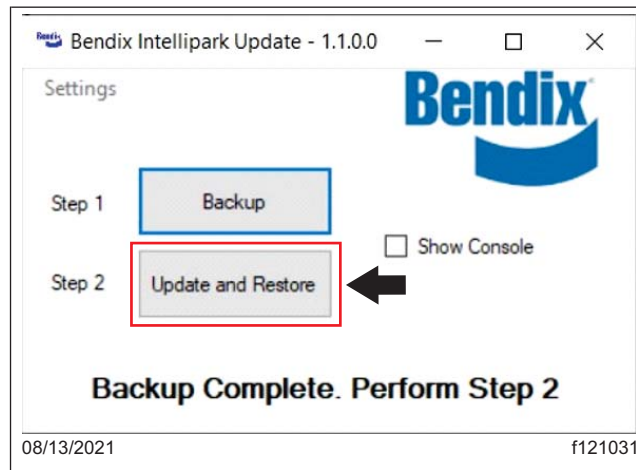

Fig. 13, Selecting Update and Restore
- If neither of the conditions from steps 8 and 9 exist, select 'Update and Restore.' See Fig. 13.